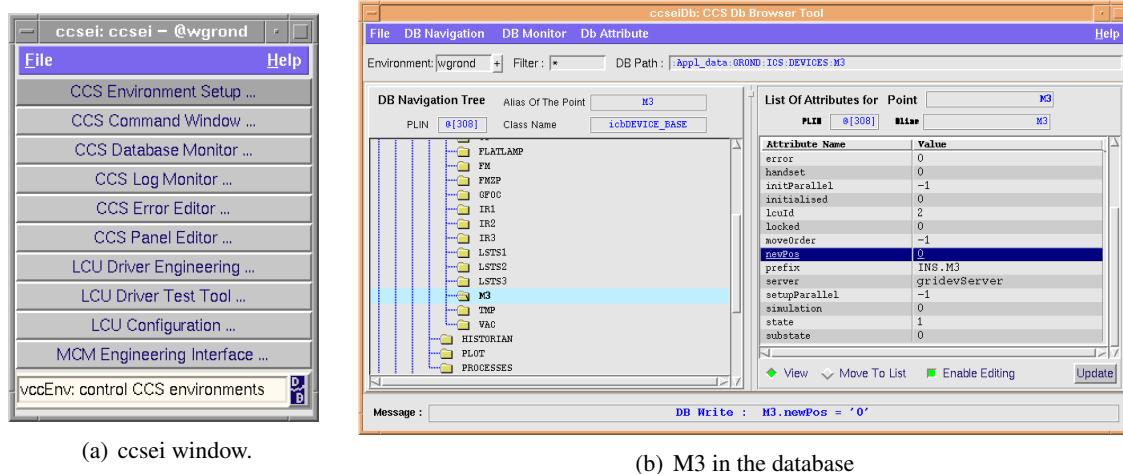

Figure 8.9: Writing the M3 position in the database
- Write the mirror position in the database (Fig. 8.9)